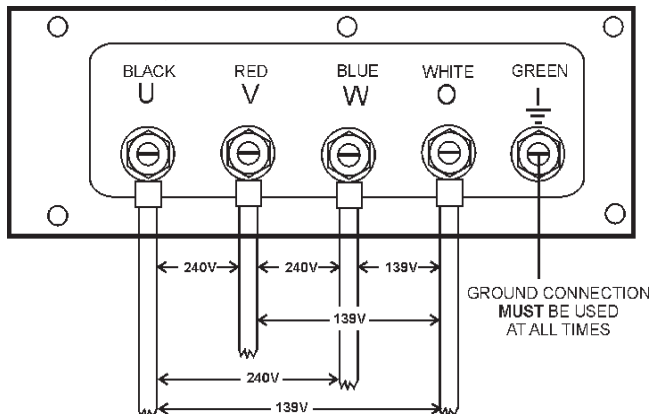

Figure 22. Output Terminal Lugs 240/139V Three Phase Connections
2. Connect the load wires to the **Output Terminal Lugs** as shown in Figure 22.